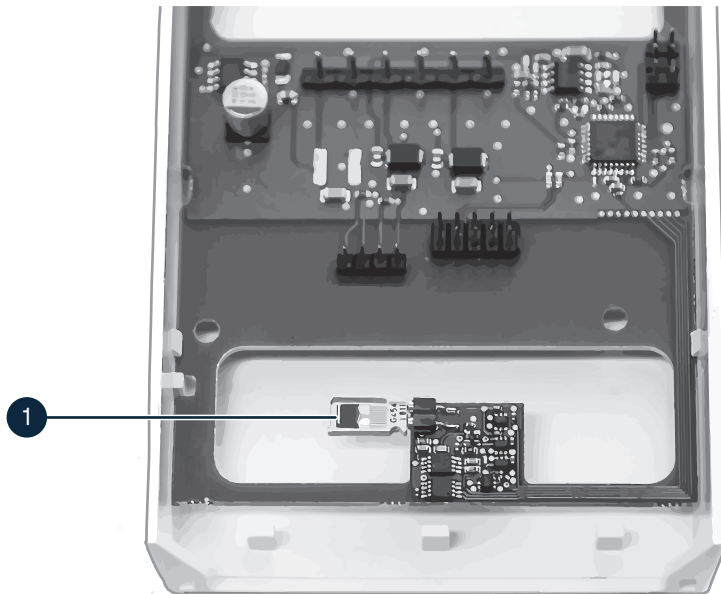

Figure 34 INTERCAP sensor in models HMW82/83
2. Remove the old sensor, and insert the new one. See Figure 34 \(page 60\).